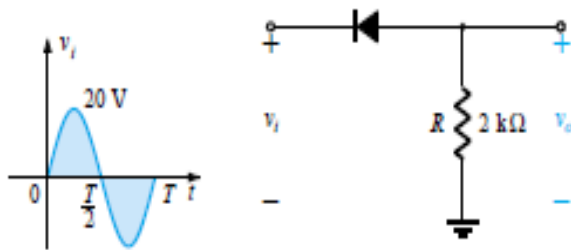

Figure 2.48 Network for Example 2.18.
- (a) Sketch the output v_o and determine the dc level of the output for the network of Fig. 2.48.
The negative sign indicates that the polarity of the output is opposite to the defined polarity of Fig. 2.48.